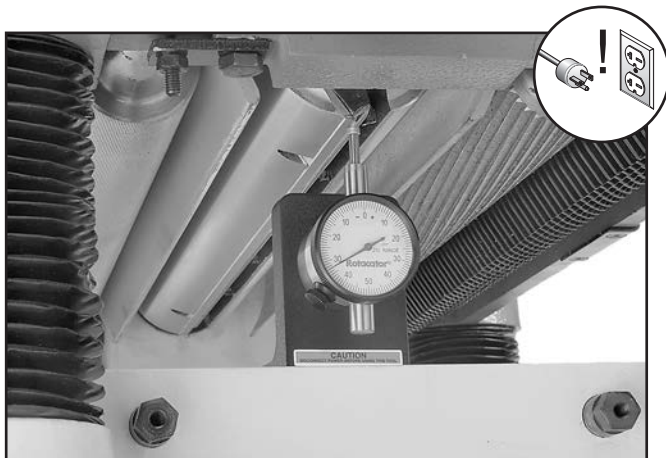

Figure 40. Example of using a Rotacator to find BDC.
5. Using your Rotacator, find bottom dead center (BDC) of any knife/insert edge by slowly rocking cutterhead pulley back and forth, then set Rotacator dial to "0" (see **Figure 40**).